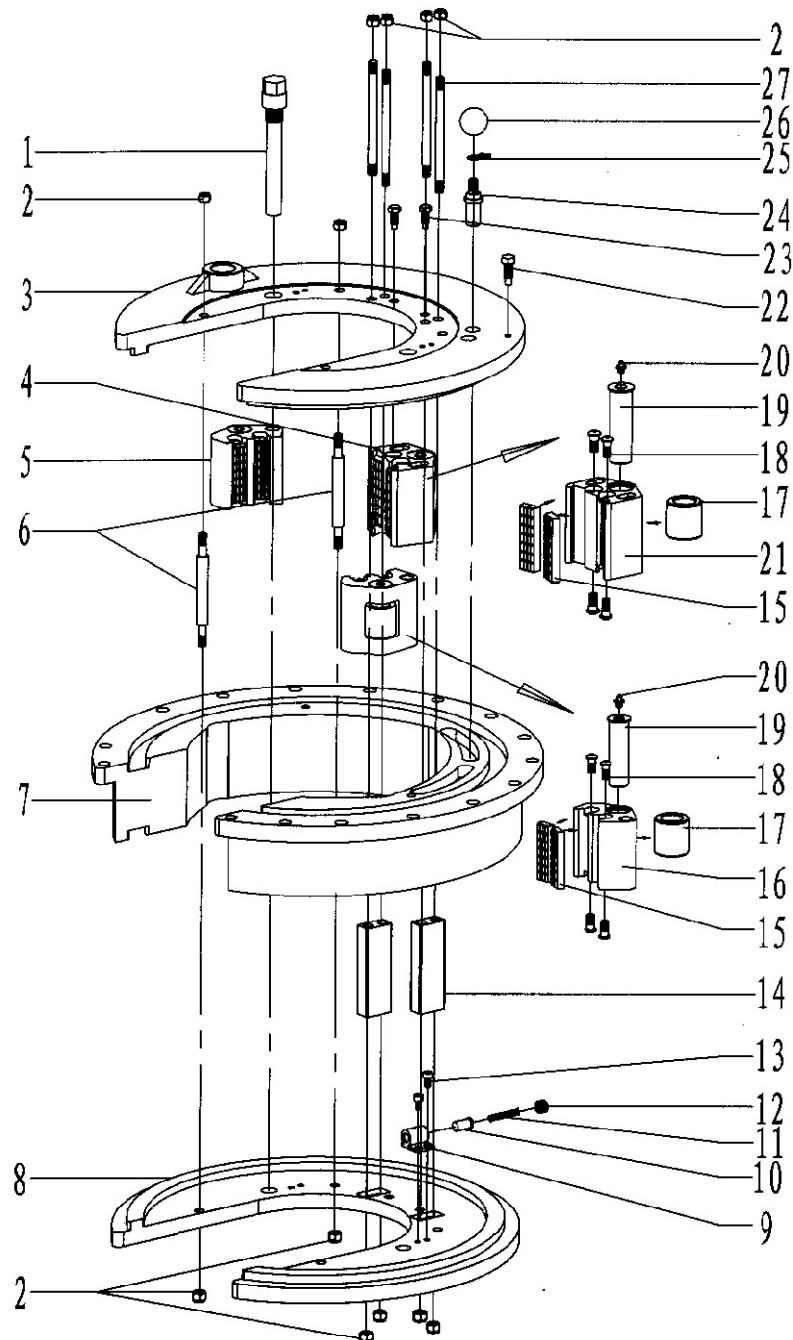

Fig 24
7.21. Backup Tong Transmission assembly (Fig24, Table23)